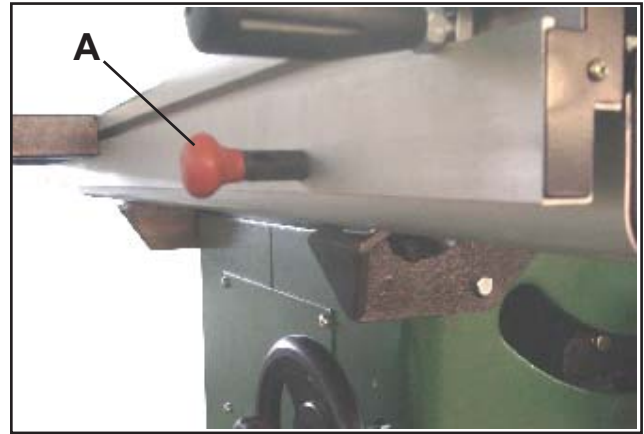

Figure 17
1. Locate the locking pin with the black handle and thread it through the sliding table body with wrench as shown. Figure 17.